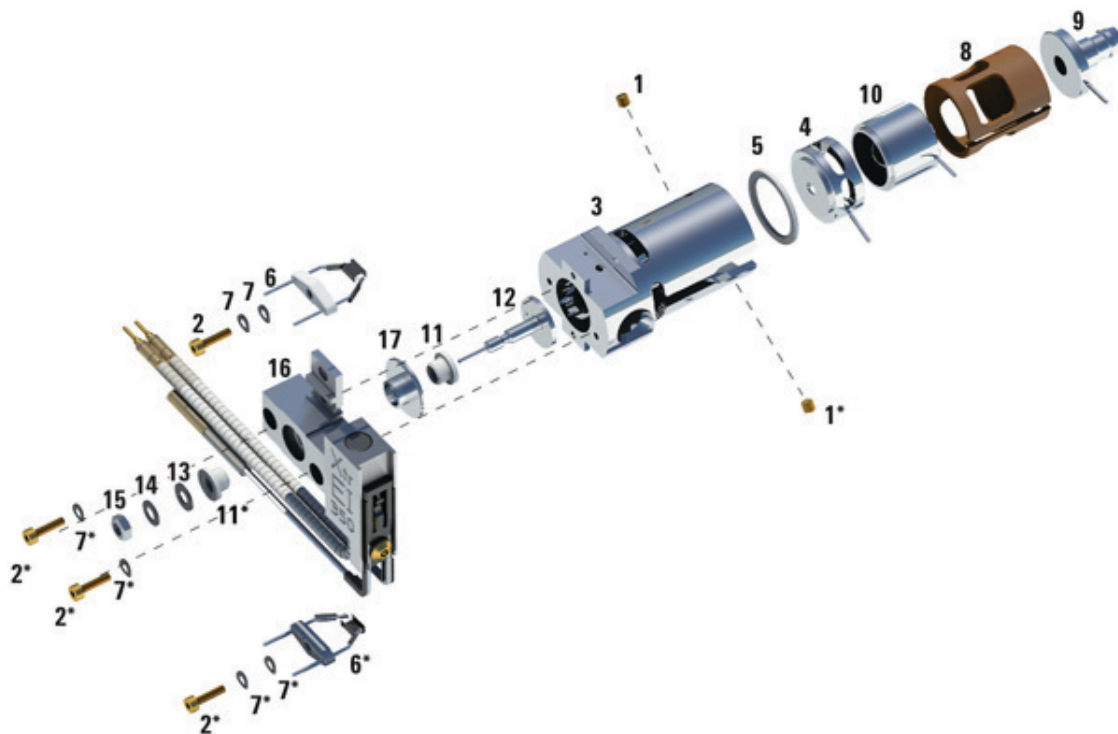

Figure 68. Assembling the EI XTR source
Refer to the exploded parts view **Figure 68** and EI XTR parts list **Table 23** on page 213 while using this procedure.
- 3 Insert the entrance lens and ion focus lens into the insulator in the order shown in **Figure 68** on page 213.
**Table 23** Parts list for EI XTR source (Figure 68)
**Table 23** Parts list for EI XTR source (Figure 68) (continued)